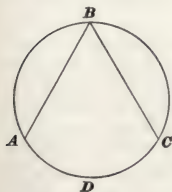

FIG. 43.
**72.** An **inscribed angle** is one whose vertex lies on the circumference of a circle and whose sides are chords. It is measured by one-half the intercepted arc. Thus, in Fig. 43,  $ABC$  is an inscribed angle, and it is measured by one-half the arc  $ADC$ .
**EXAMPLE.**—If in Fig. 43, the arc  $ADC = \frac{2}{3}$  of the circumference, what is the measurement of the inscribed angle  $ABC$ ?